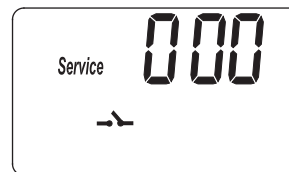
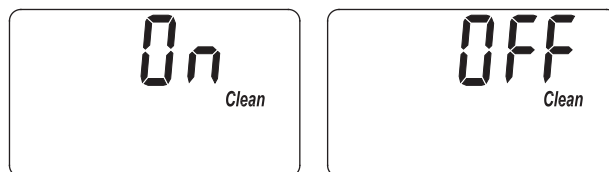
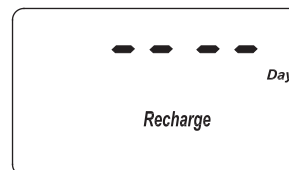
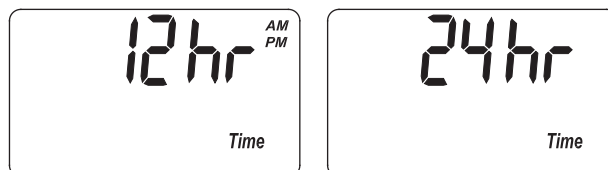

FIG. 27
FIG. 28
FIG. 30
FIG. 31
1. Press and hold the PROGRAM button until the screen in Figure 27 is displayed. Once in this display, press the PROGRAM button twice and one of the two displays in Figure 28 is shown.
1. Press and hold the PROGRAM button until the screen in Figure 27 is displayed. Once in this display, press the PROGRAM button three times and the display in Figure 29 is shown.
1. Press and hold the PROGRAM button until the screen in Figure 27 is displayed. Once in this display, press the PROGRAM button four times and the display in Figure 30 is shown.
1. Press and hold the PROGRAM button until the screen in Figure 27 is displayed. Once in this display, press the PROGRAM button five times and one of the two displays in Figure 31 is shown.